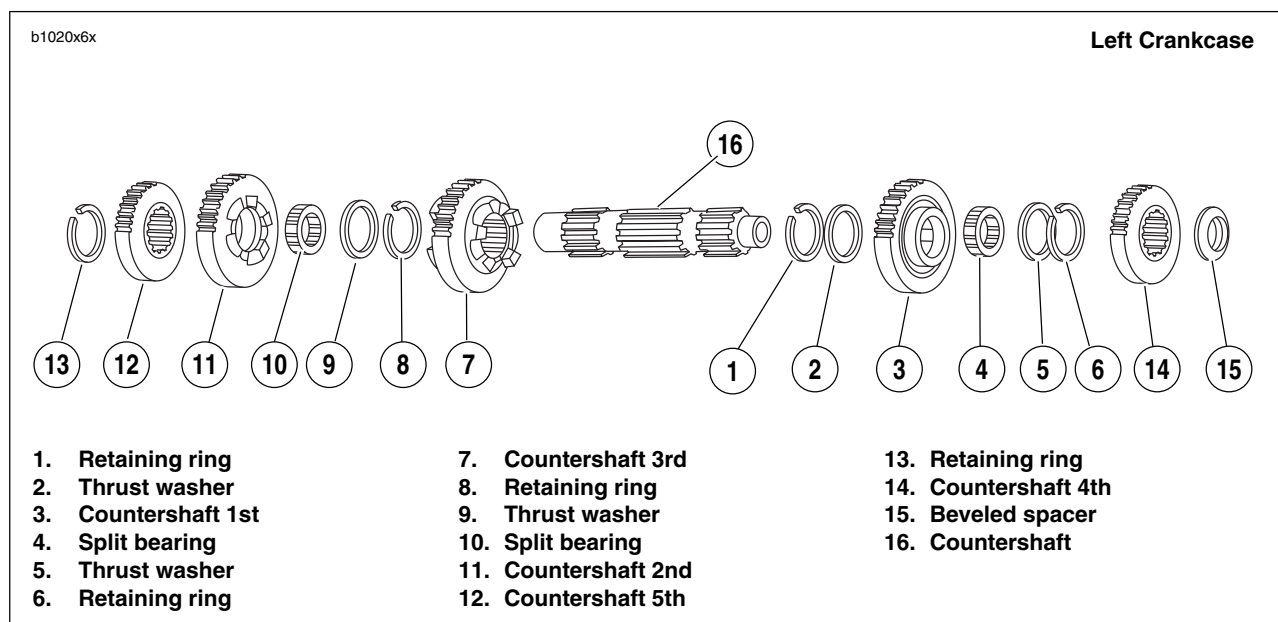

Figure 6-66. Transmission Countershaft Assembly/Reassembly
1. See Figure 6-66. Install **new** retaining ring (1) and thrust washer (2) onto countershaft in the second ring groove from the end with internal threads.
2. Install split bearing (4) onto countershaft.
3. Locate countershaft 1st gear (3), identified by one radial groove at one side, and slide gear onto shaft. Position gear over bearing (4).
4. Install thrust washer (5) and **new** retaining ring (6) next to countershaft 1st gear (3).
5. Install countershaft 3rd gear (7) on countershaft with fork groove facing away from countershaft 1st gear (3).
6. Install **new** retaining ring (8) on countershaft. Position **new** retaining ring in the second ring groove from the end. Install thrust washer (9) next to retaining ring (8). Install split bearing (10) in seat next to washer (9).